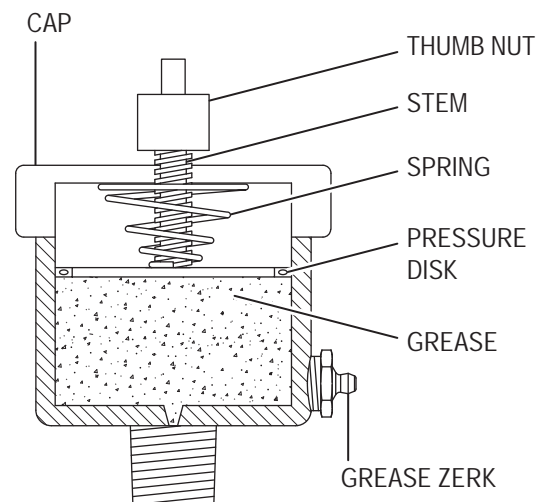

Figure 1 – Automatic Pressure Lubricator Components
B. Check automatic pressure lubricator at pump. If the red indicator is fully raised, the automatic pressure lubricator contains lubricant. If not, lubricant must be replaced by the following procedure (See Figure 1):